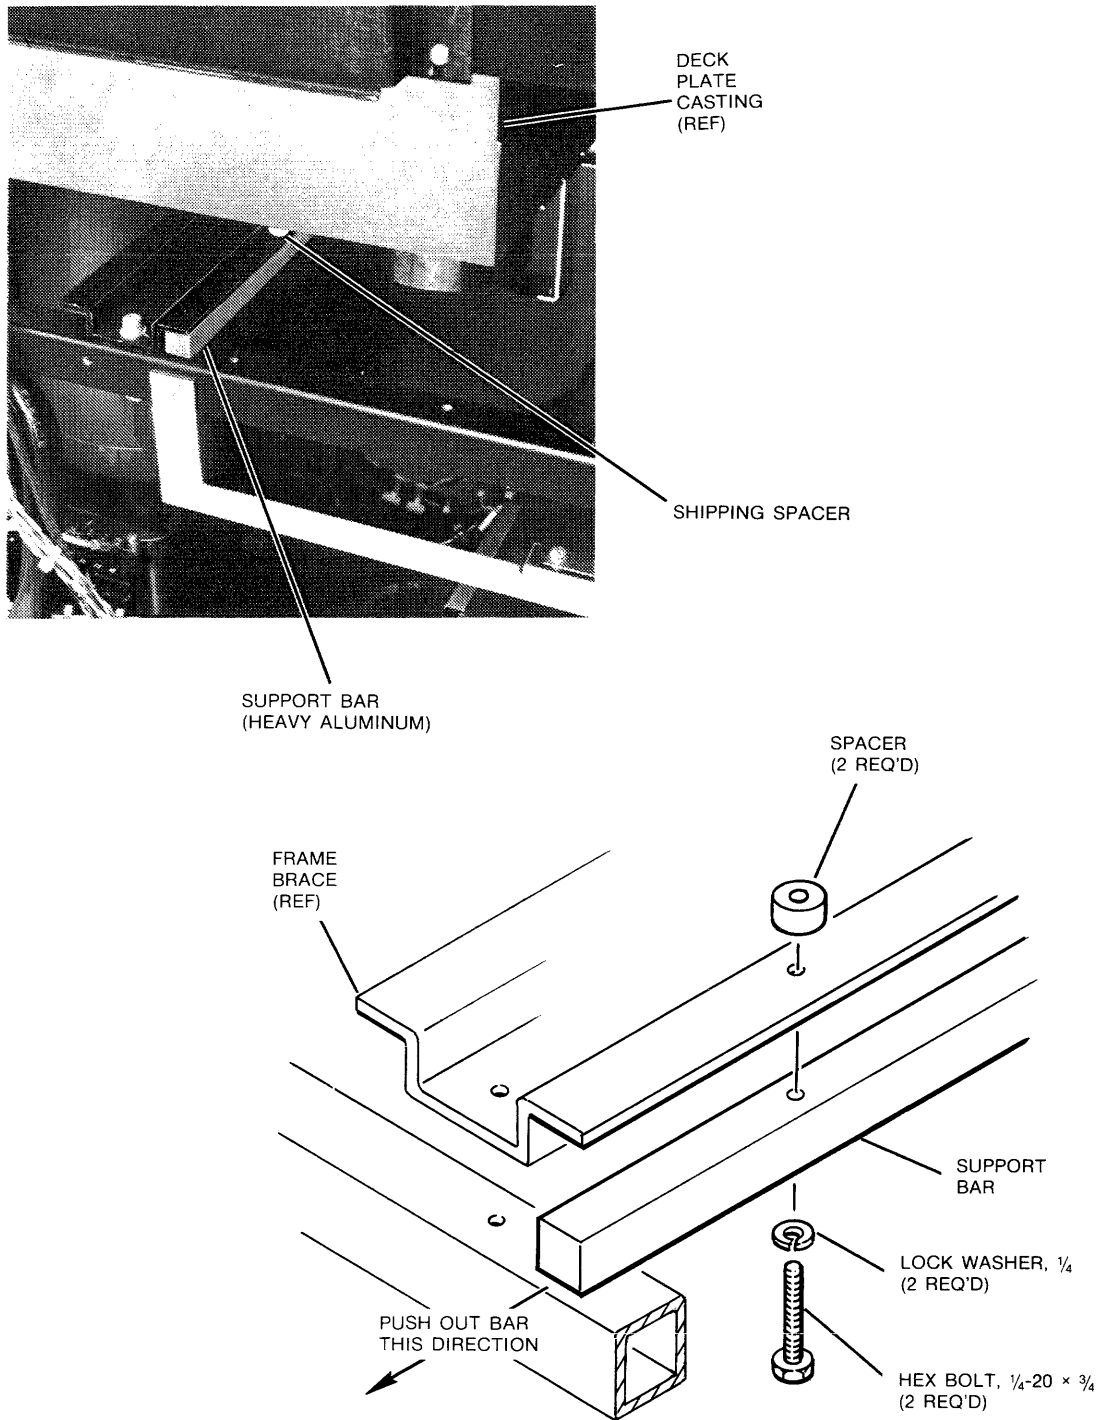

FIGURE 2-5. SHIPPING SPACERS AND SUPPORT BAR
3. Remove two bolt/washer/spacer sets from the area between the frame and deck plate (see Figure 2-5).
4. Remove the heavy support bar by pushing out from the side (see Figure 2-5).